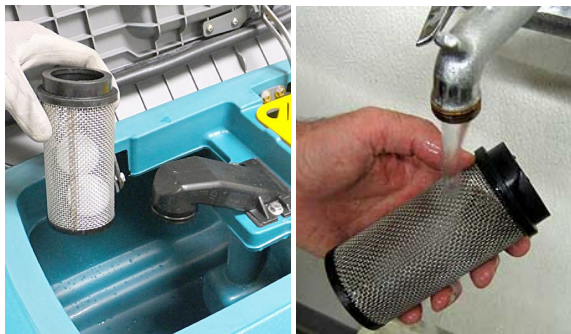

FIG. 57
3. Remove and clean the float shut-off screen (Figure 57).